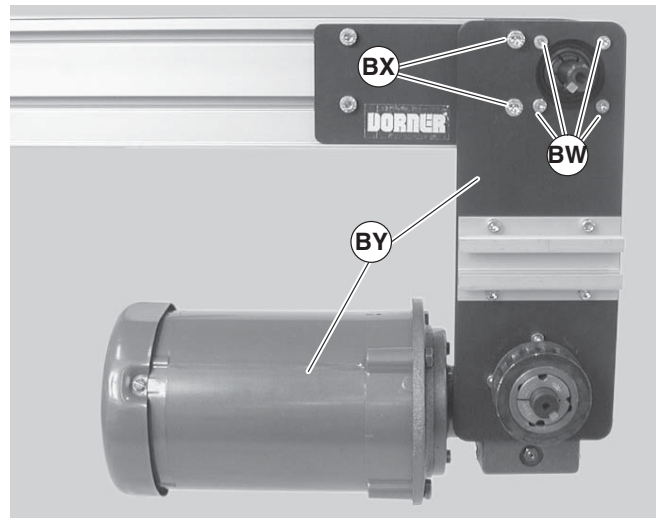

Figure 63
- e. Remove four (4) M5 mounting screws (Figure 63, item BW) and two (2) M8 mounting screws (BX).
- f. Remove gearmotor and mounting plate assembly (Figure 63, item BY).